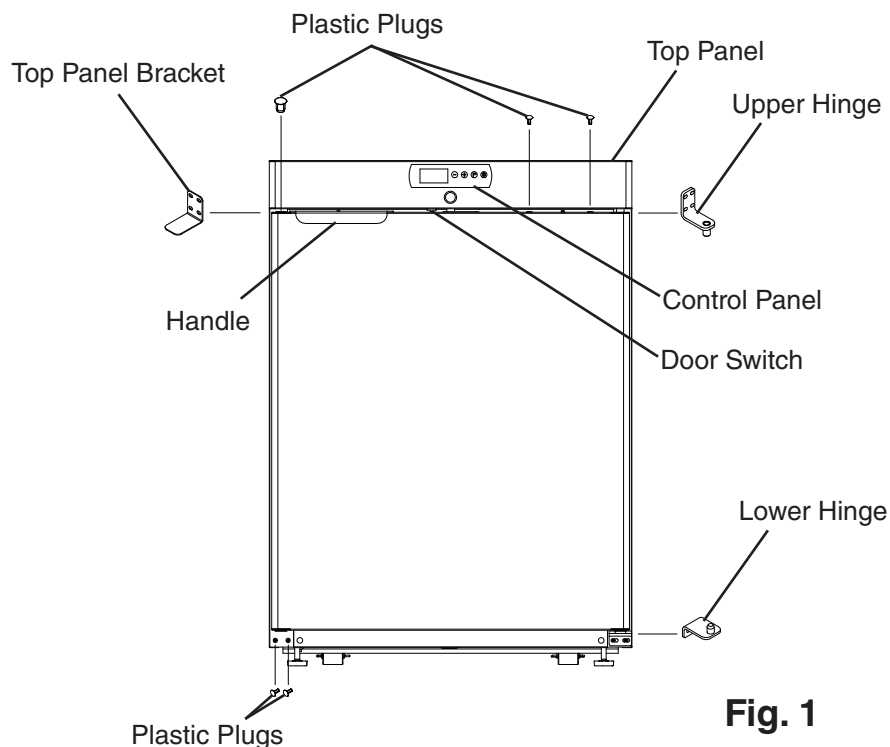

Fig. 1
- 2) Remove the fasteners securing the top panel. See Fig. 1. Being careful not to pull on the wires to the control panel and door switch, lift off the top panel. Secure the top panel so that it does not interfere with the upper hinge or top panel bracket and will not fall.